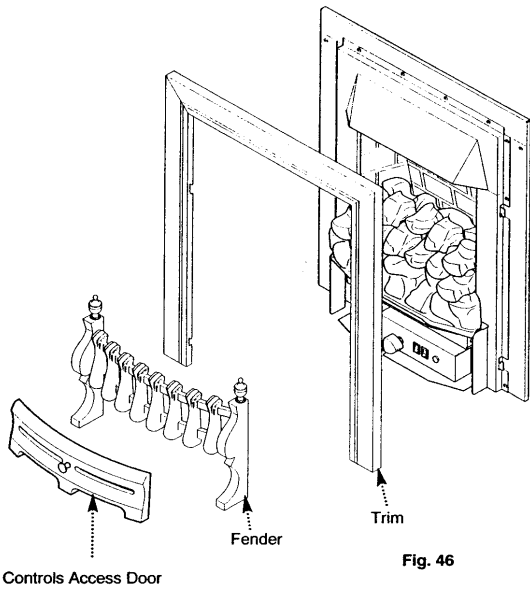

Fig. 46
2. Remove the controls access door and fender assembly (Fig. 46).
3. Remove the trim (Fig. 46).